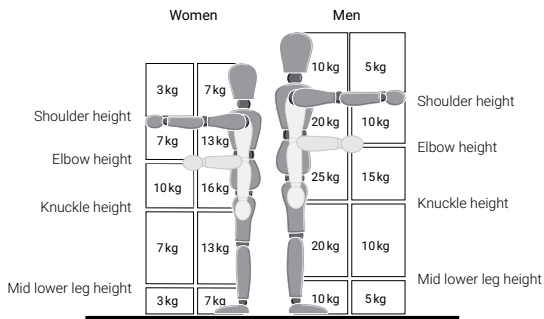

Figure 11: Lifting and lowering guideline
- Safe guidelines for any lifting operations are shown in figure 11 and figure 12 below:
In line with the lifting and lowering guideline shown in figure 11, two people should carry larger and heavier panels.